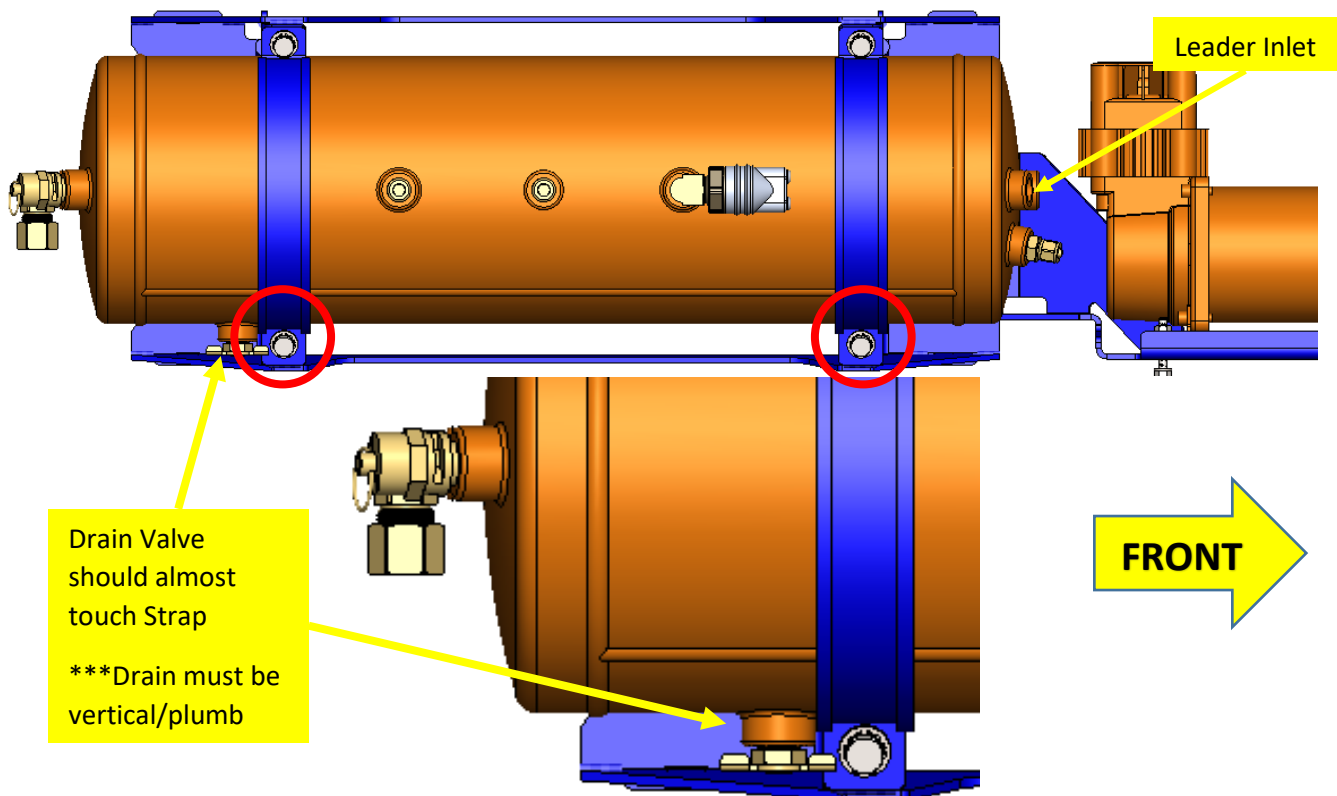

Figure 24 - Air Tank Final Installed
10.6.2. Orient Air Tank and secure both RAPTOR-202 to bottom holes using hardware #4, #8, & #9, as shown in Figure 24 below. Final torque to 37 in-lbs.